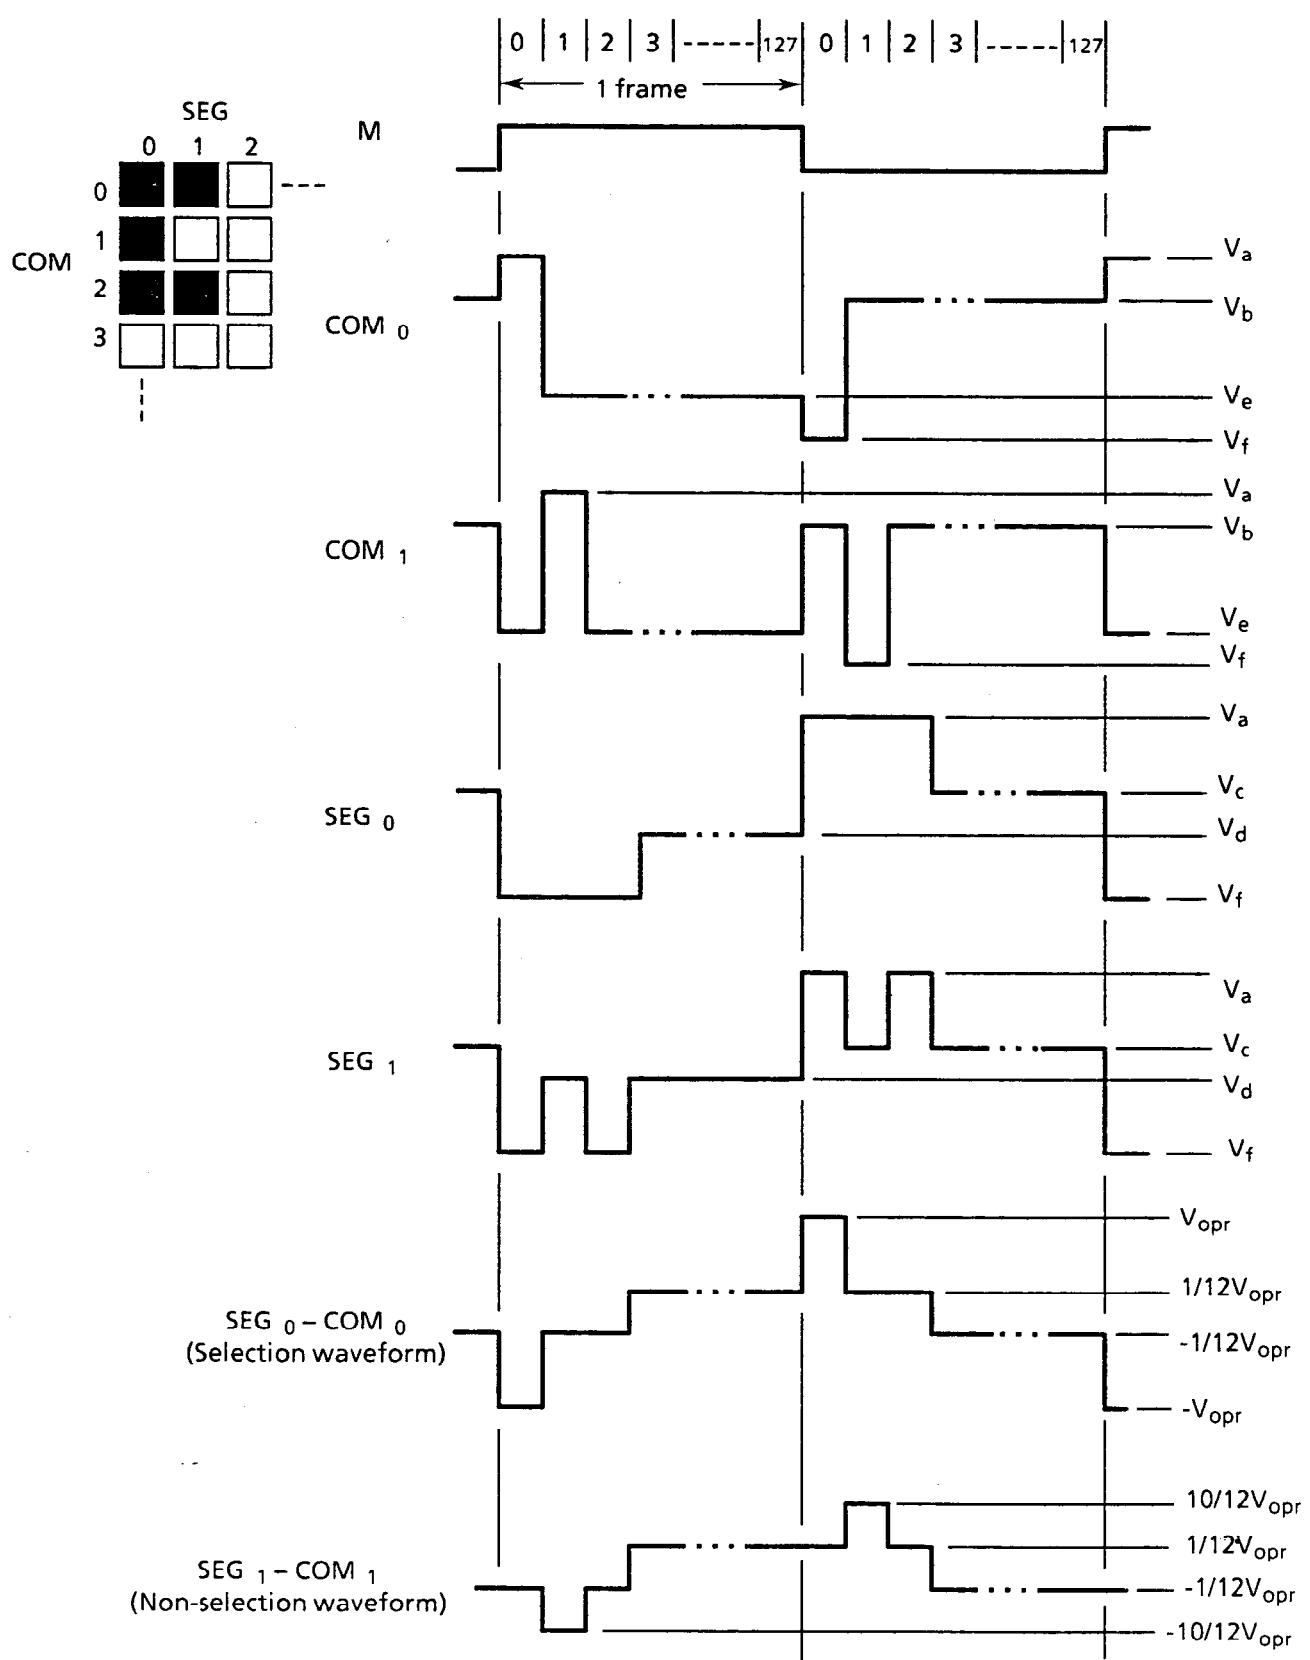

Figure 2 Drive waveform
The drive waveform of the LCD panel is shown in Figure 2 on the next page. Since DC voltage will damage the liquid crystal, an AC voltage is applied between the two frames. The signal controlling this is the liquid crystal AC drive control signal (M).
The G191C has a 1/128 duty cycle, and the common electrodes are selected within a frame by time division from electrode 1 to electrode 128. This is called line sequential scanning. The voltage level of the segment electrodes determines whether the dots at the intersection of the segment electrodes are selected or not, when the common electrode is selected. As shown in Table 1, there are six drive waveform voltage levels,  $V_a$  to  $V_f$ . The voltage level is determined by the bias value. The voltage between the segment and common electrodes is thus applied to the liquid crystal. The selection waveform for  $SEG_0$ - $COM_0$  and the non-selection waveform for  $SEG_1$ - $COM_1$  are shown in Figure 2. The size of the effective voltage of the waveform determines whether the liquid crystal under the selected dots is in the selection or non-selection state.